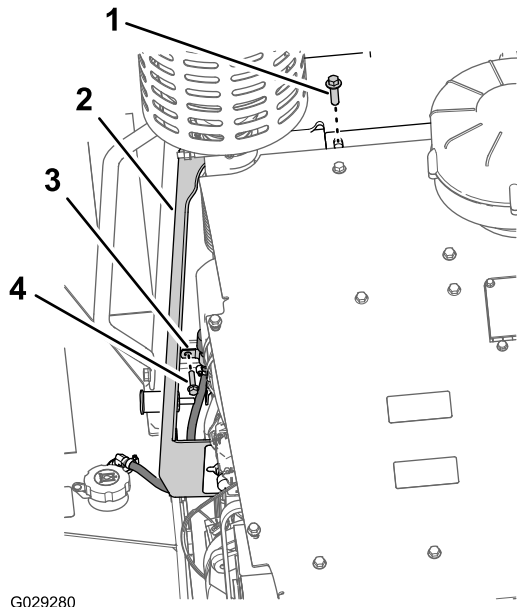

Figure 5
1. Remove the flange-head bolt (12 x 40 mm) that secures the right-cowl panel to the ROPS-mounting plate (Figure 5).
2. Remove the flange-head bolt (8 x 35 mm) that secures the clamp for the hydraulic-tank breather and the right-cowl panel to the firewall (Figure 5)